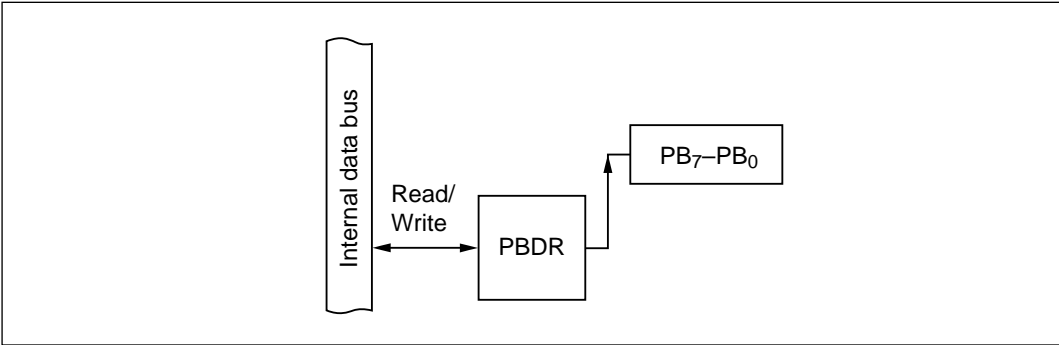

Figure 10-80 Output Port (Mode 7)
(3) Output Port (All Pins: Mode 7): Figure 10-80 shows a block diagram illustrating the general-purpose output function. Table 10-61 indicates register read/write data. The value written in the port B data register (PBDR) is output at the pin. When read, PBDR returns the value written in PBDR.